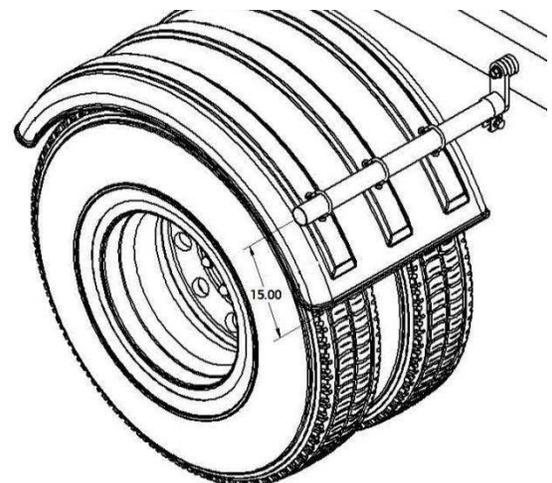

Figure 9
H. If possible, position the mounting brackets so they are located within 15" of the bottom of the fender. This protects against wind blowing the leading edge of the fender back into the tire (Figure 9).